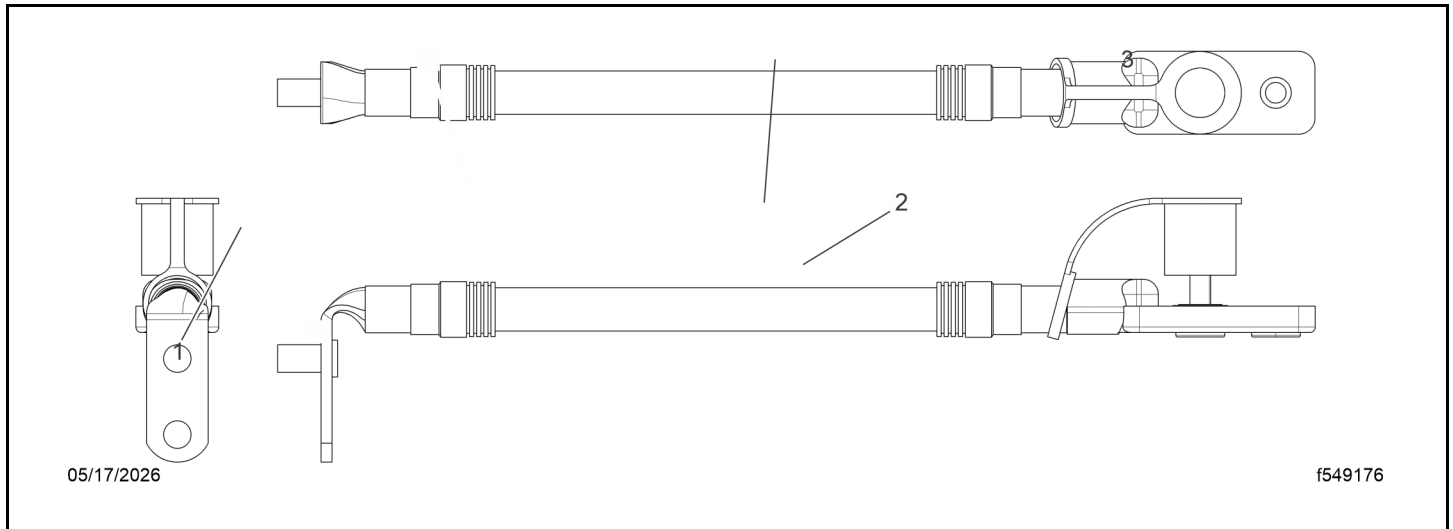

Fig 133, Jump-Start Cable Orientation
- g. Position the new terminal according to the orientation drawing. See Fig. Fig. 133.